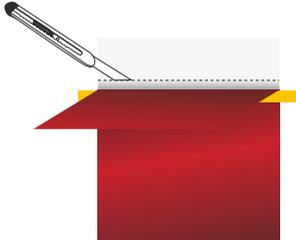

Figure06
- ▶ Peel off 10 cm (4 in) of the liner. (FIG. 06)